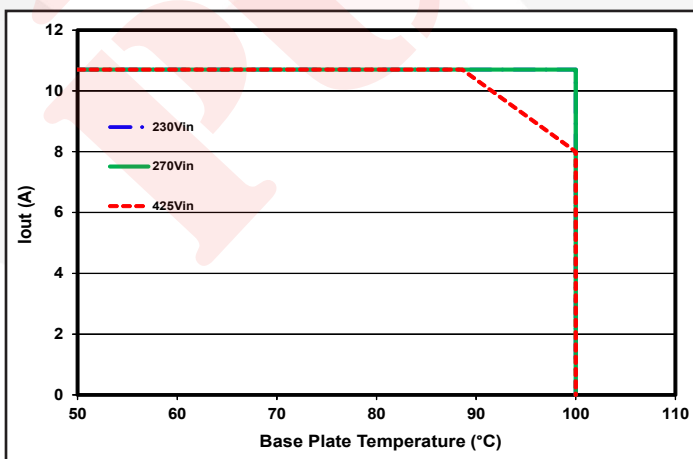

Figure 5: Maximum output current vs. base plate temperature.
**Thermal Considerations:** The maximum operating base-plate temperature,  $T_{B\theta}$ , is 100 °C. Refer to the thermal derating curve, Figure 5, to see the available output current at baseplate temperatures below 100 °C.